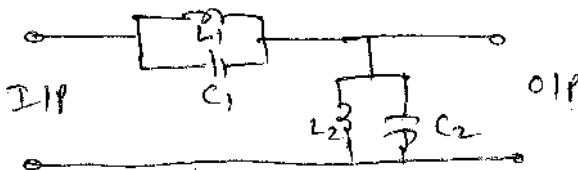

Figure 2
- c) Identify the zeroes of transmission for the network in Fig. 2 4